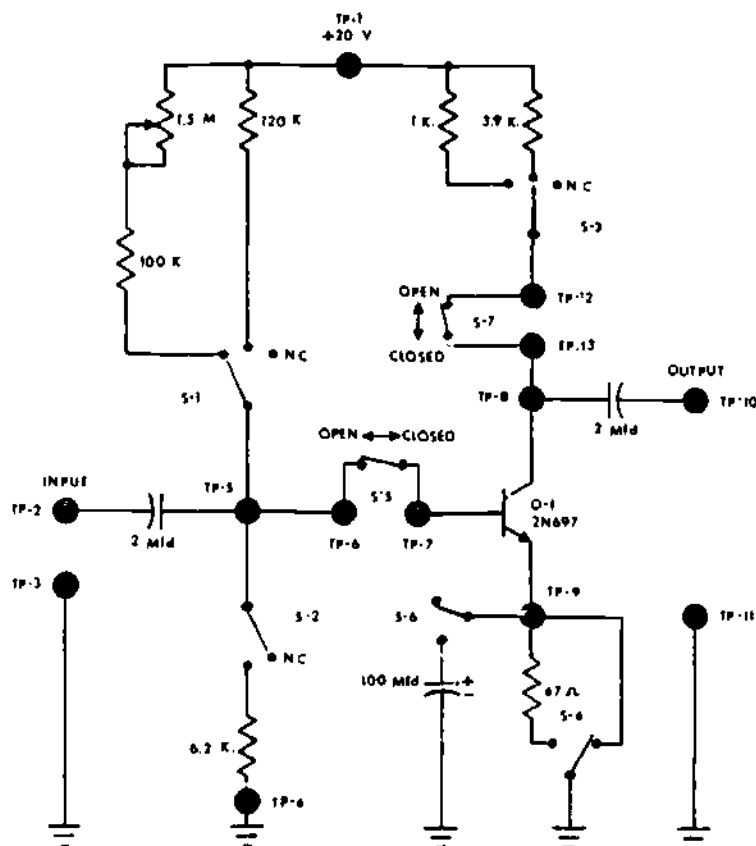

Figure 31-7. Transistor Voltage Amplifier
1. Trainer Analysis: The transistor voltage amplifier trainer is extremely versatile and can be used to determine many characteristics of a transistor amplifier. The first thing to do is become thoroughly familiar with the trainer shown in figure 31-7. Locate the following trainer functions and components:
b. Preset the switches on the transistor voltage amplifier trainer to select the circuit shown in figure 31-7.
(1) Select the 1.5 M ohm variable biasing resistor using switch S1.
(2) Rotate switch, S2, to the open position (NC).
(3) Select the 3.9 k ohm collector load resistor using switch S3.
(4) Select ground on the emitter lead using S4 (move right).
(5) Plug the trainer into a 110 VAC bench outlet.